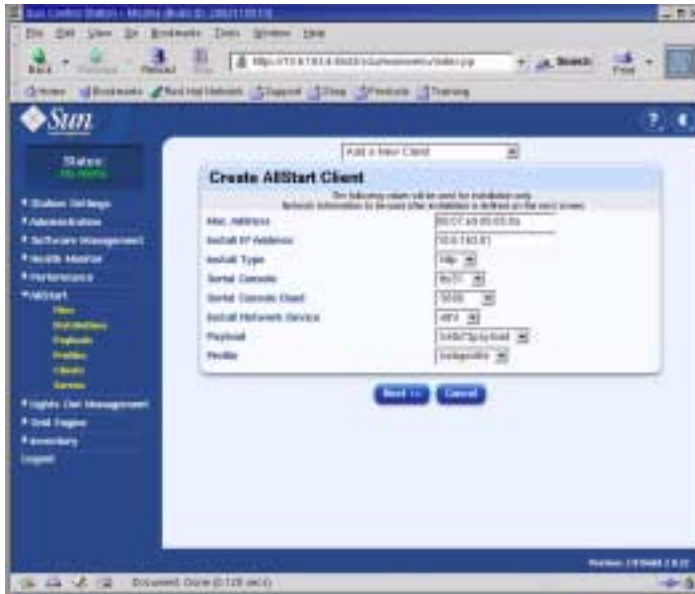

FIGURE 2-18 Create AllStart Client Window
- 3. In the Create AllStart Client window, create the client by defining the information for the node to which you will be loading the payload (see FIGURE 2-18 for an example). Verify that the following required options are selected:**